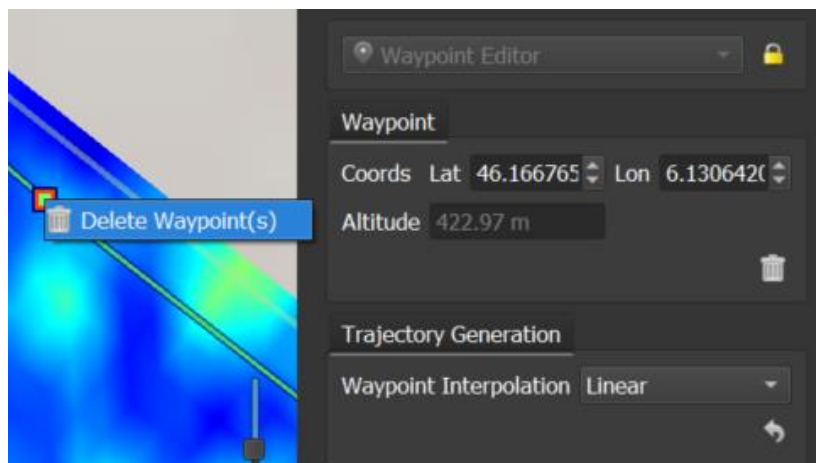

Fig. 79 – Delete Waypoint commands
- **Delete a waypoint** by right clicking on it and click  **Delete Waypoint(s)** command. Otherwise, it is possible to click on the delete button  shown on the trajectory window (Fig. 79).
- **Modify the Waypoints interpolation mode** from the Trajectory Generation Tab (Fig. 79) by choosing among options **Linear**, **Spline** and **Mixed**.